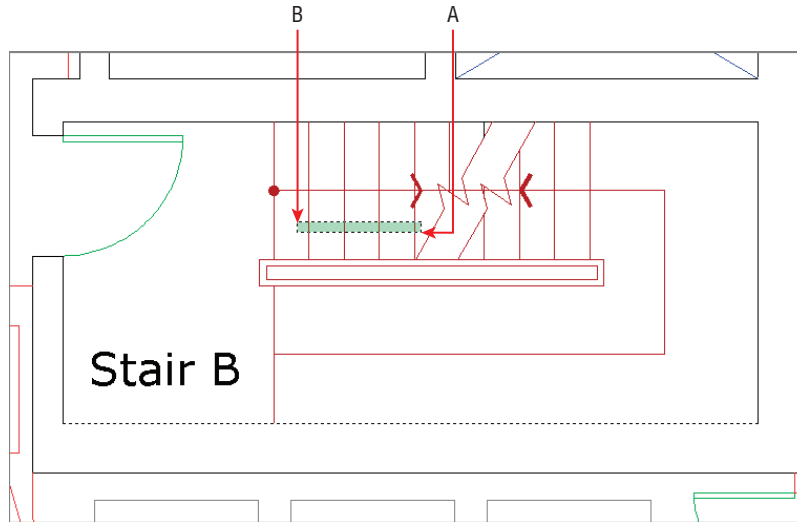

FIGURE 4.23 Extending lines with a crossing window and by selecting
4. Create a crossing window by clicking points A and B as shown in Figure 4.23. Four tread lines are extended. Click each remaining tread line, one at a time, to extend all the stair treads to the core wall. Press Enter to end the command.